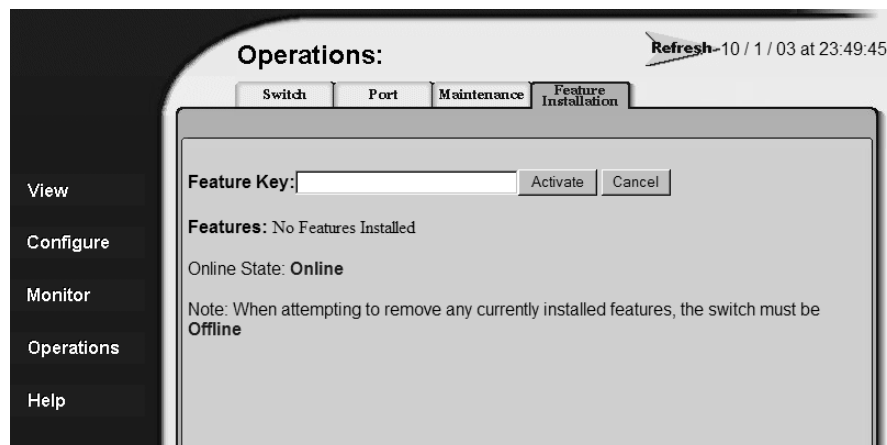

Figure 2: Operations page—Feature Installation tab
2. Click **Feature Installation**. The **Operations** panel opens with the **Feature Installation** page displayed, as shown in Figure 2.